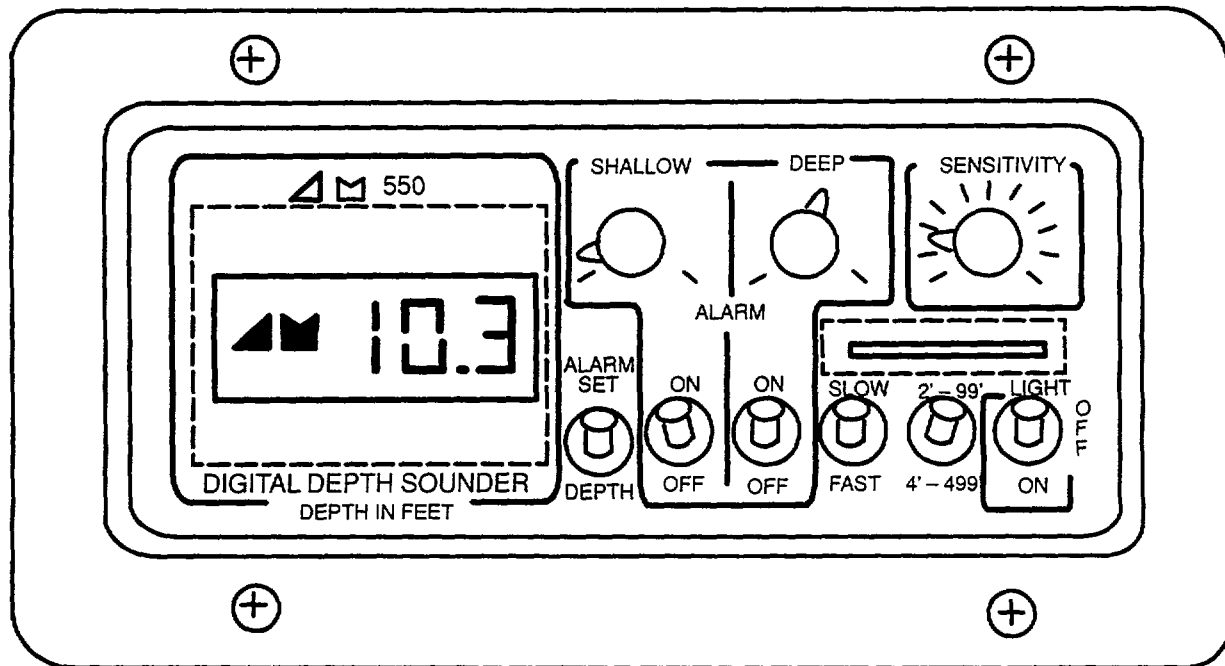

Figure 2-7. Depthfinder Controls and Indicators
**2-10.16 Depthfinder controls and indicators.** These are mounted aft of VHF/FM radio on starboard side of operator's position and shown in Figure 2-7.